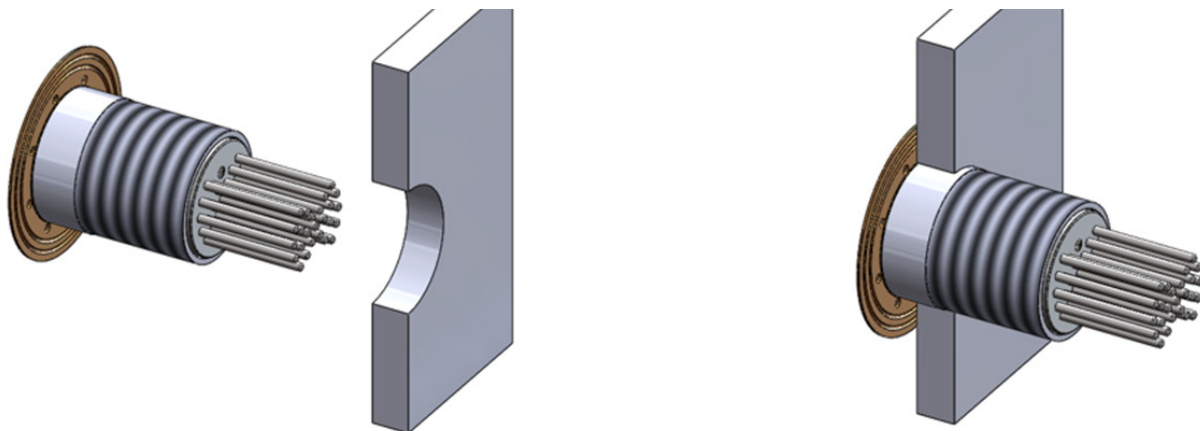

Fig.6.3
TIP: Make sure sealant fills in the recess grooves on the reverse of the light head (See Fig.6.3).
2. Insert the light body into the hull, feeding the stem through first and seat into place. Press the light hard into the hull and twist slightly to spread the sealant around behind the light to ensure good adhesion. (See Fig.6.3).